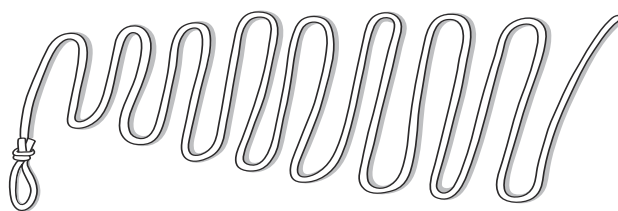

Figure 9-6. Laying the Rope to Construct an Alpine Basket.
- Start by tying an end-of-the-line figure-eight loop and then laying down the rope to make 24- to 36-inch long bights that span the height of the casualty's body. Ensure the bights stay no more than 4 inches apart from one another, as shown in figure 9-6.